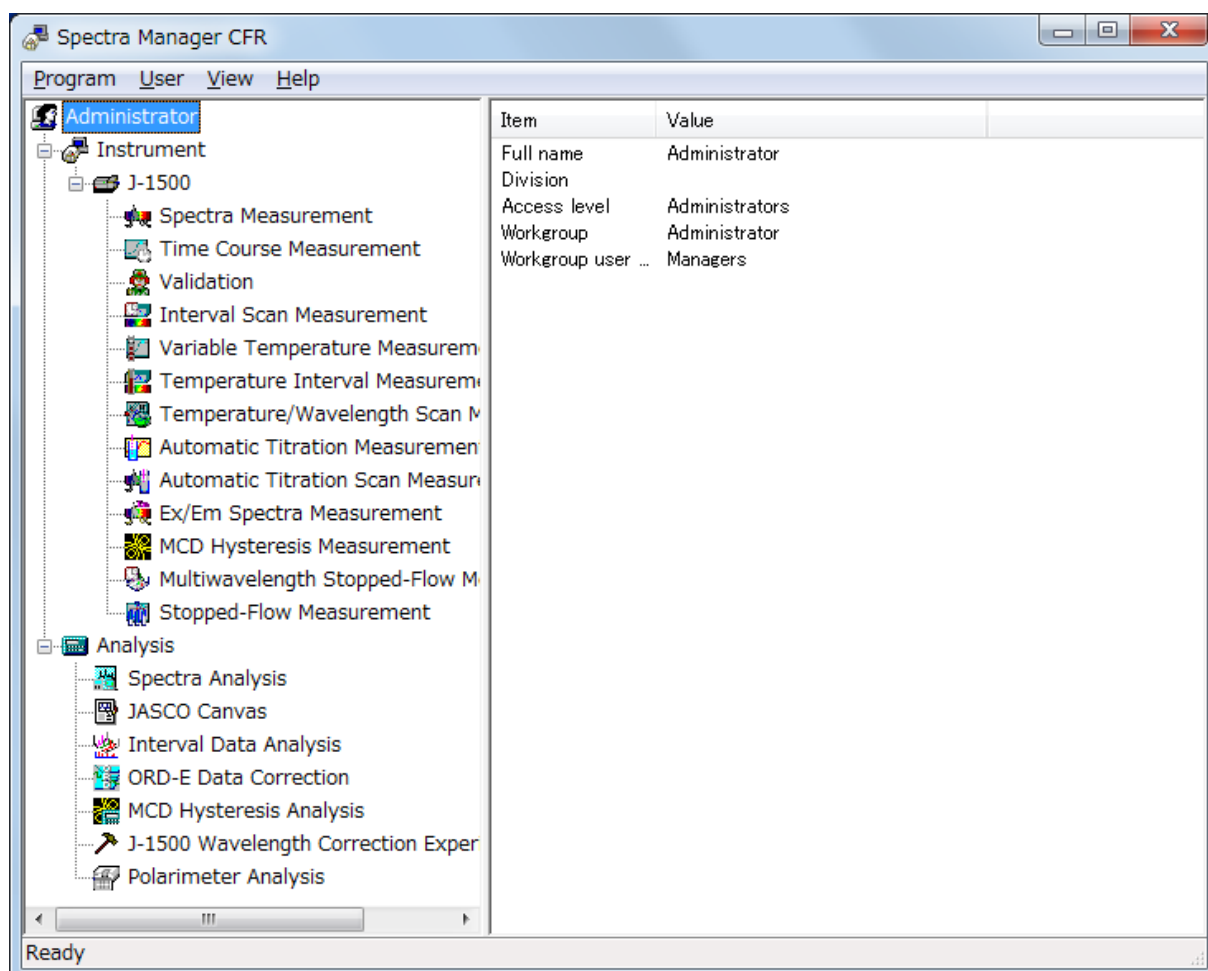

Figure 2.20 [Spectra Manager CFR] window
- (1) After starting *Windows*, double-click the [Spectra Manager] icon located on the *Windows* desktop. Type the username and password in the logon dialog box to display the window in Figure 2.20.